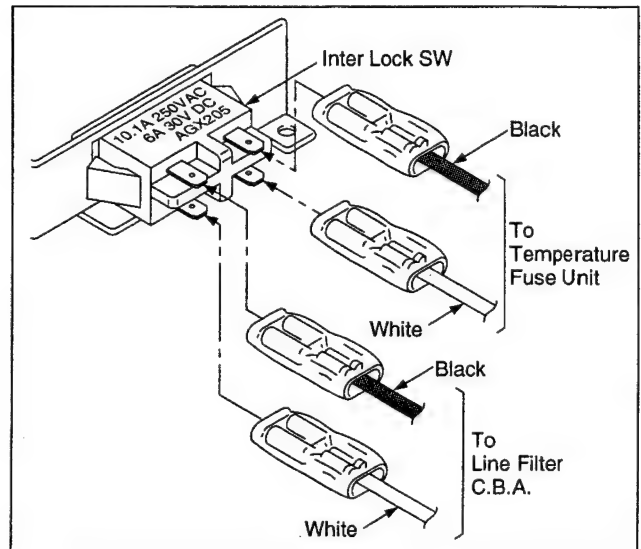

Fig. P10
1. Insert the cable (4 pins) correctly to the terminal of Inter Lock SW as shown in Fig. P10.